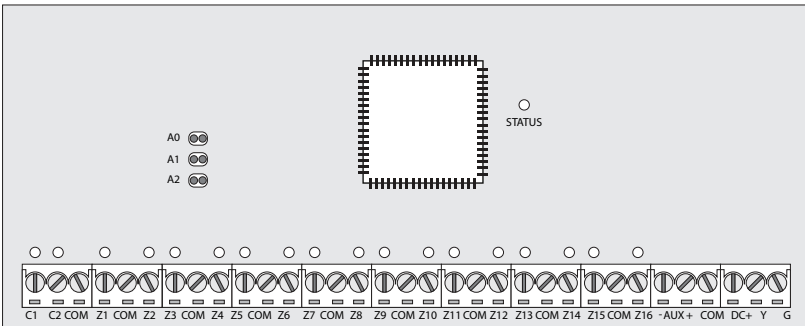

Fig. No. 2
2. Connect EPGM1 **DC+** terminal to ESIM264/ESIM364 **AUX+** terminal, EPGM1 **COM** terminal to ESIM264/ESIM364 **AUX-** terminal, EPGM1 **Y** and **G** terminals must be connected to ESIM264/ESIM364 **Y** and **G** terminals respectively (see Fig. No. 2).